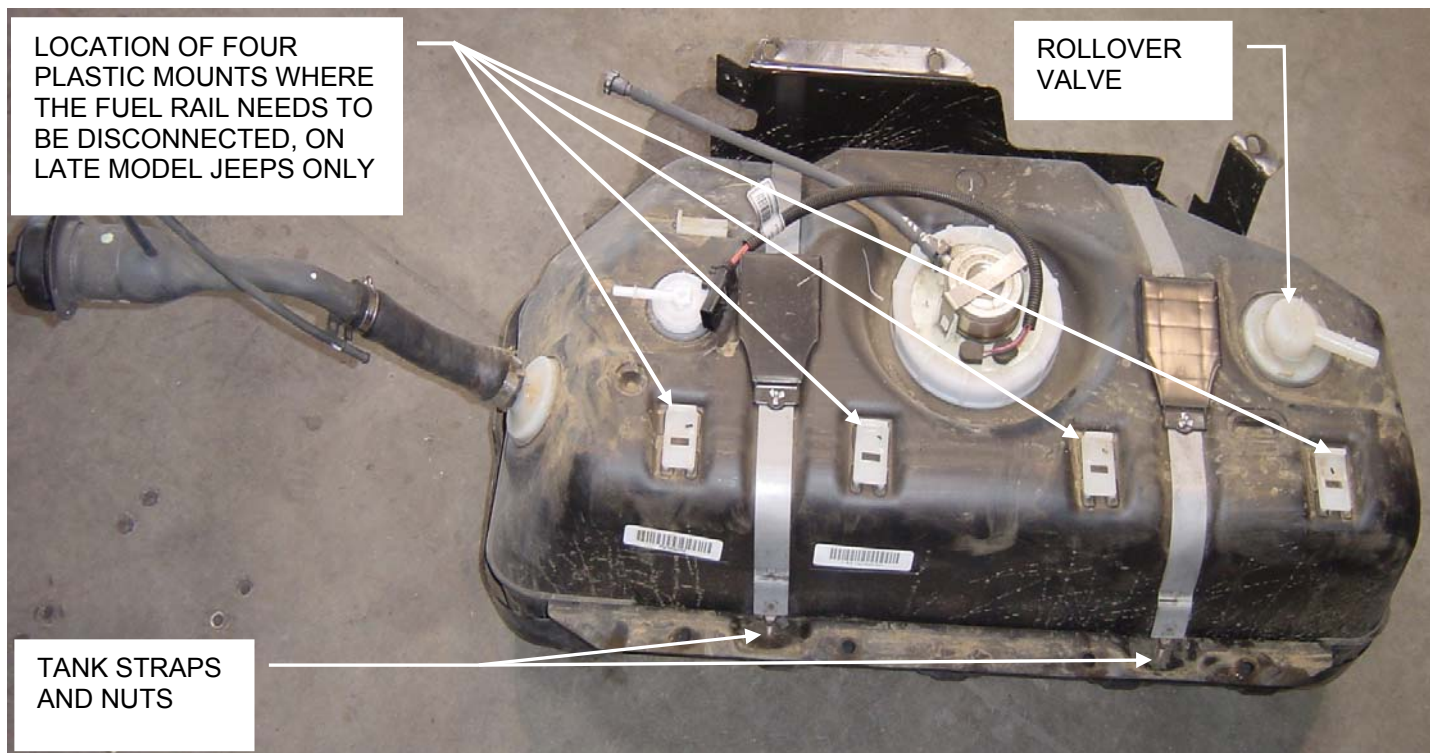

Figure 6: Location of mounts for fuel rail on top of tank
9. Slowly lower the tank and factory skid plate from the vehicle approximately 3-4 inches to allow for final disconnecting of fuel rail on top of tank, refer to **Figure 4** for proper disconnection. Once the fuel rail assembly is disconnected from the top of the tank continue to remove the tank from the vehicle. It will have to be rotated in order to get the filler neck out of the frame and through the hole. This step is much easier with the help of a second person. See **Figure 6** for additional information on location of fuel rail on the top of the tank.
10. Remove the nuts holding the straps to the OEM skid pan and remove the tank. Refer to **Figure 6**. It will be necessary to unhook one of the vent hoses connected to the rollover valves to remove the tank straps.